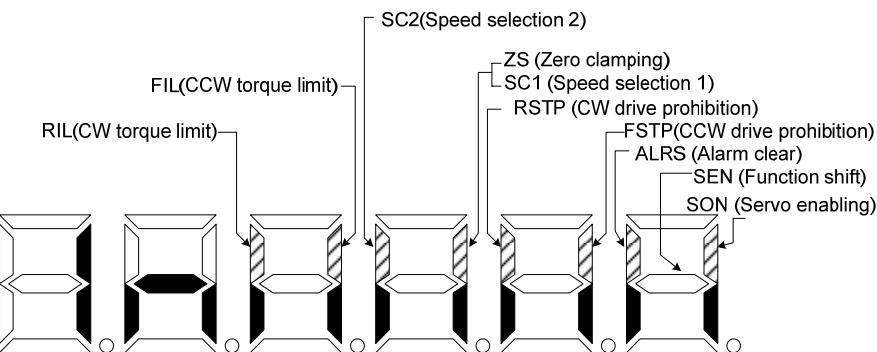
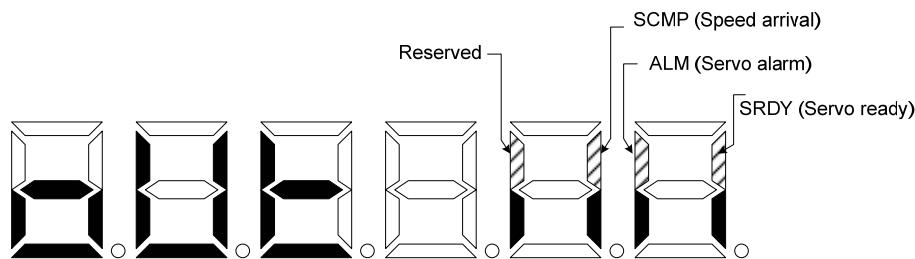

Fig. 6-3 Input terminal display (Stroke lights up that means ON, and vice versa)
Fig. 6-4 Output terminal display (Stroke lights up that means ON, and vice versa)
**Note 6:** Figure 6-3 shows the input terminal; the Figure 6-4 indicates the output terminal; the Fig. 6-5 displays the encoder signal.